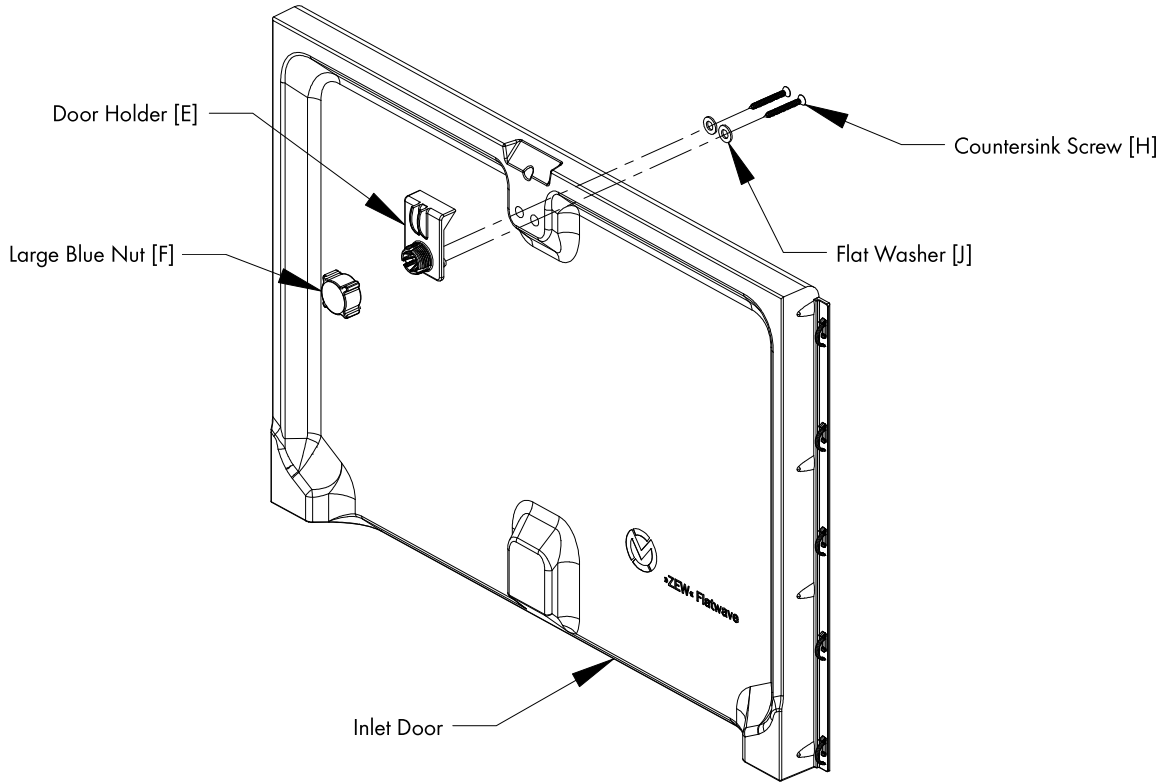

Figure 12
Thread Large Blue Nut [F] onto Door Holder [E], then attach Door Holder [E] to top of Inlet Door using (2) Flat Washers [J] and Countersink Screws [H]. See Figures 12.